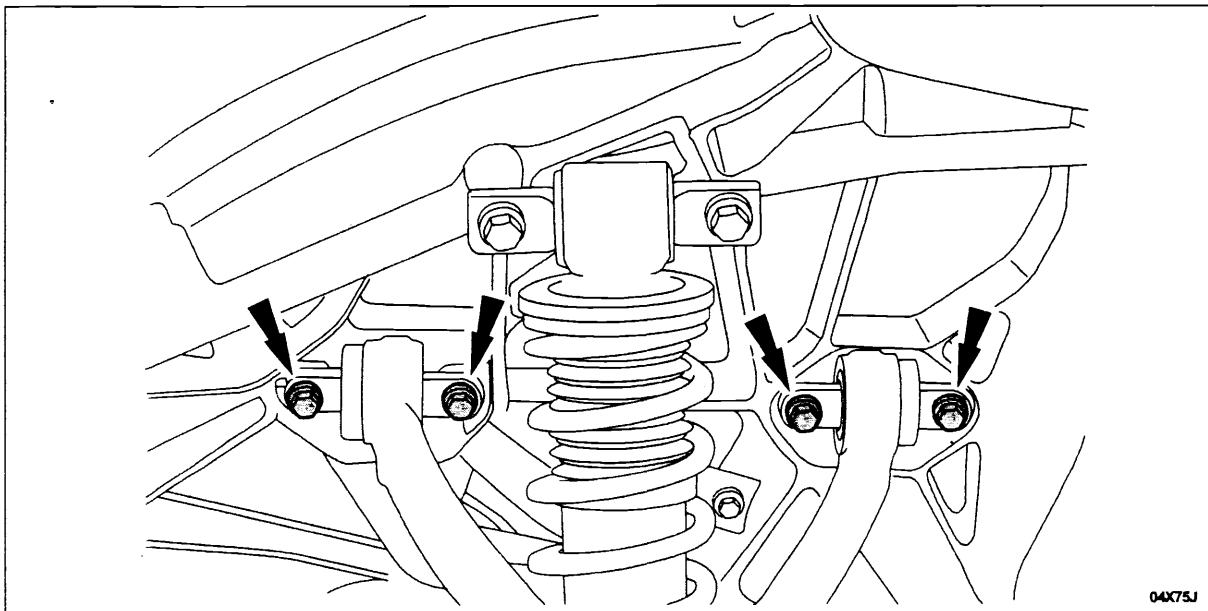

FIGURE 10
2. Remove the two (2) inner upper control arm-to-frame bolts and washers.
4. Remove the two (2) outer upper control arm-to-frame bolts and washers. See Figure 10.